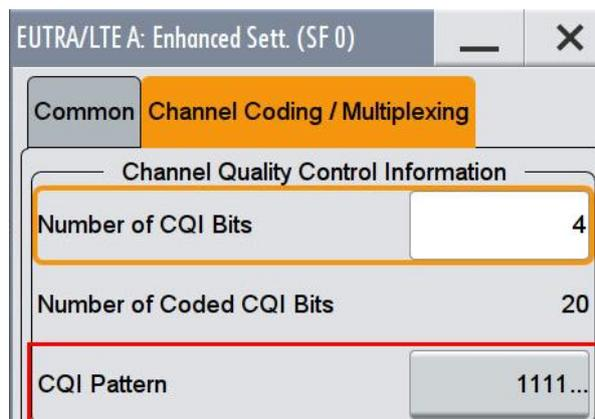

Fig. 3-95: Set four bits CQI pattern to '1111'
9. Set the **Number of CQI bits** to 4 and **CQI Pattern** (four bits) to '1111' (Fig. 3-95)